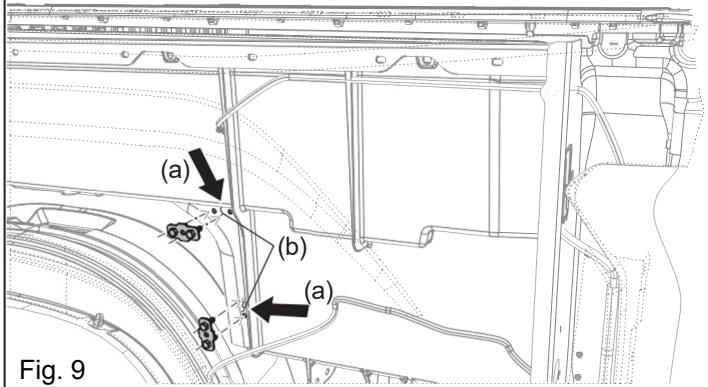

Fig. 9
- (a) Access the inside of the bed wall and locate the four drilled holes, Fig. 9. Clean surface area with shop towel.
(b) Check that the area between the drilled holes where the adhesive must stick is clear of dirt and debris, Fig. 9.
(c) Remove the protective film from the adhesive prior to installing each plate, Fig. 9. Install a bolt plate into each (2 total) pair of drilled holes, Fig. 9. Apply pressure to the bolt plate to ensure adhesion.
9. Install the Swingcase, Fig. 9.